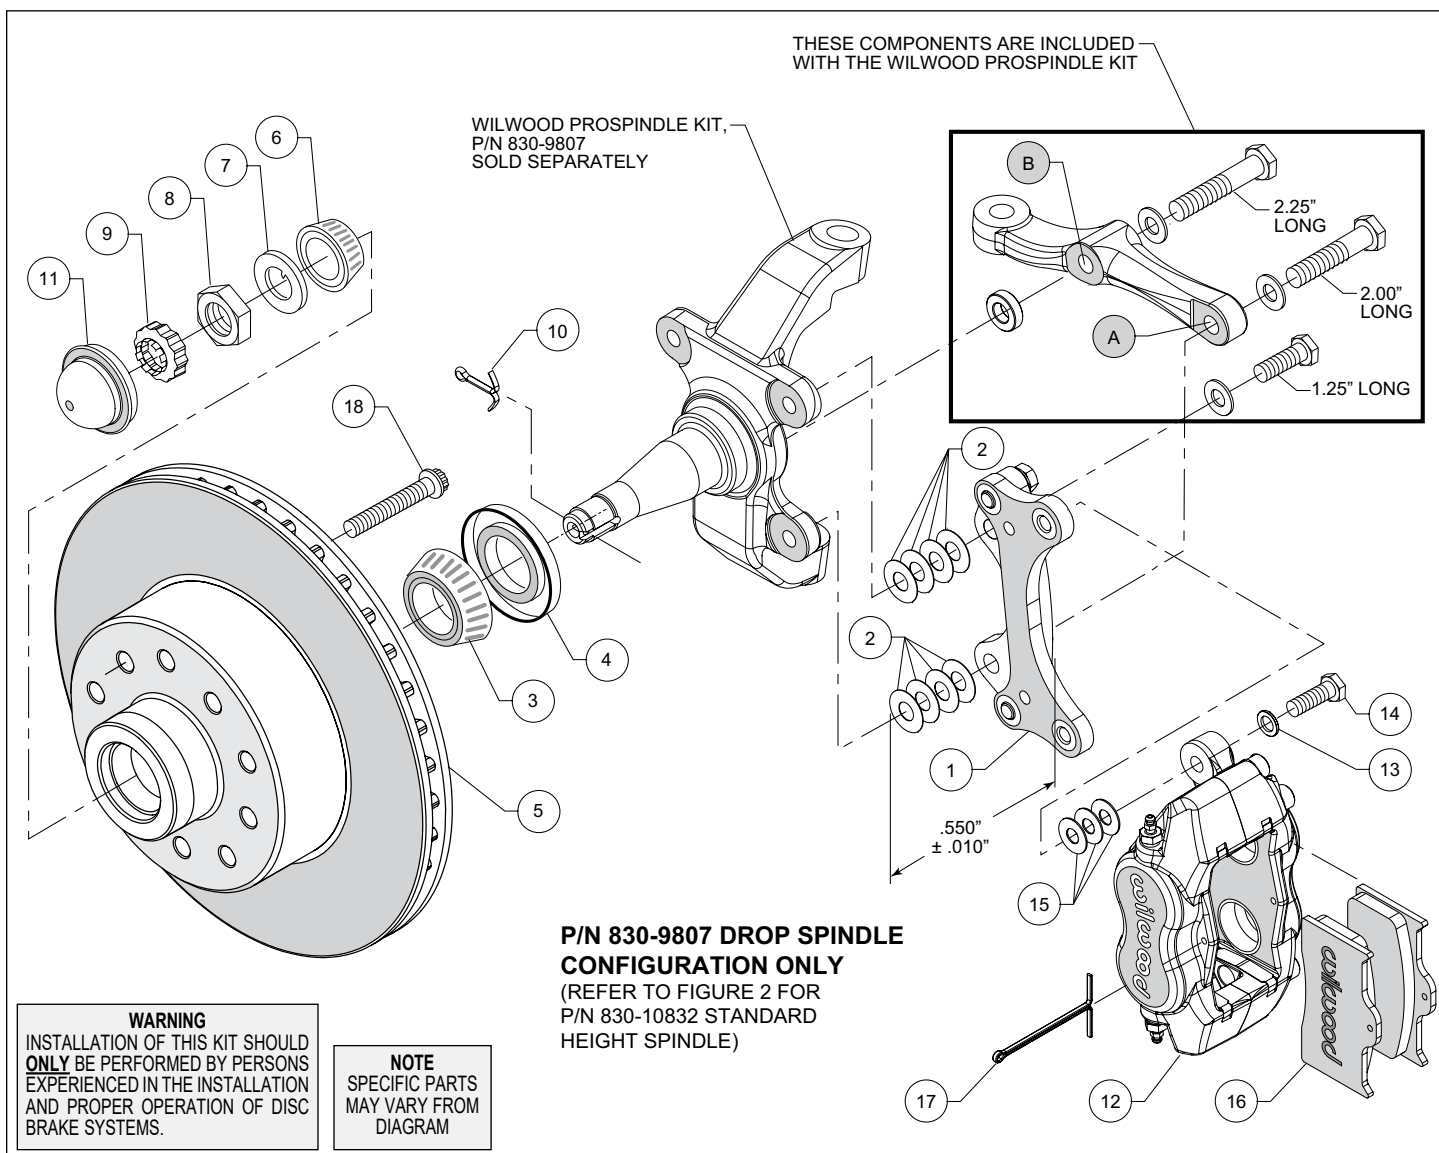
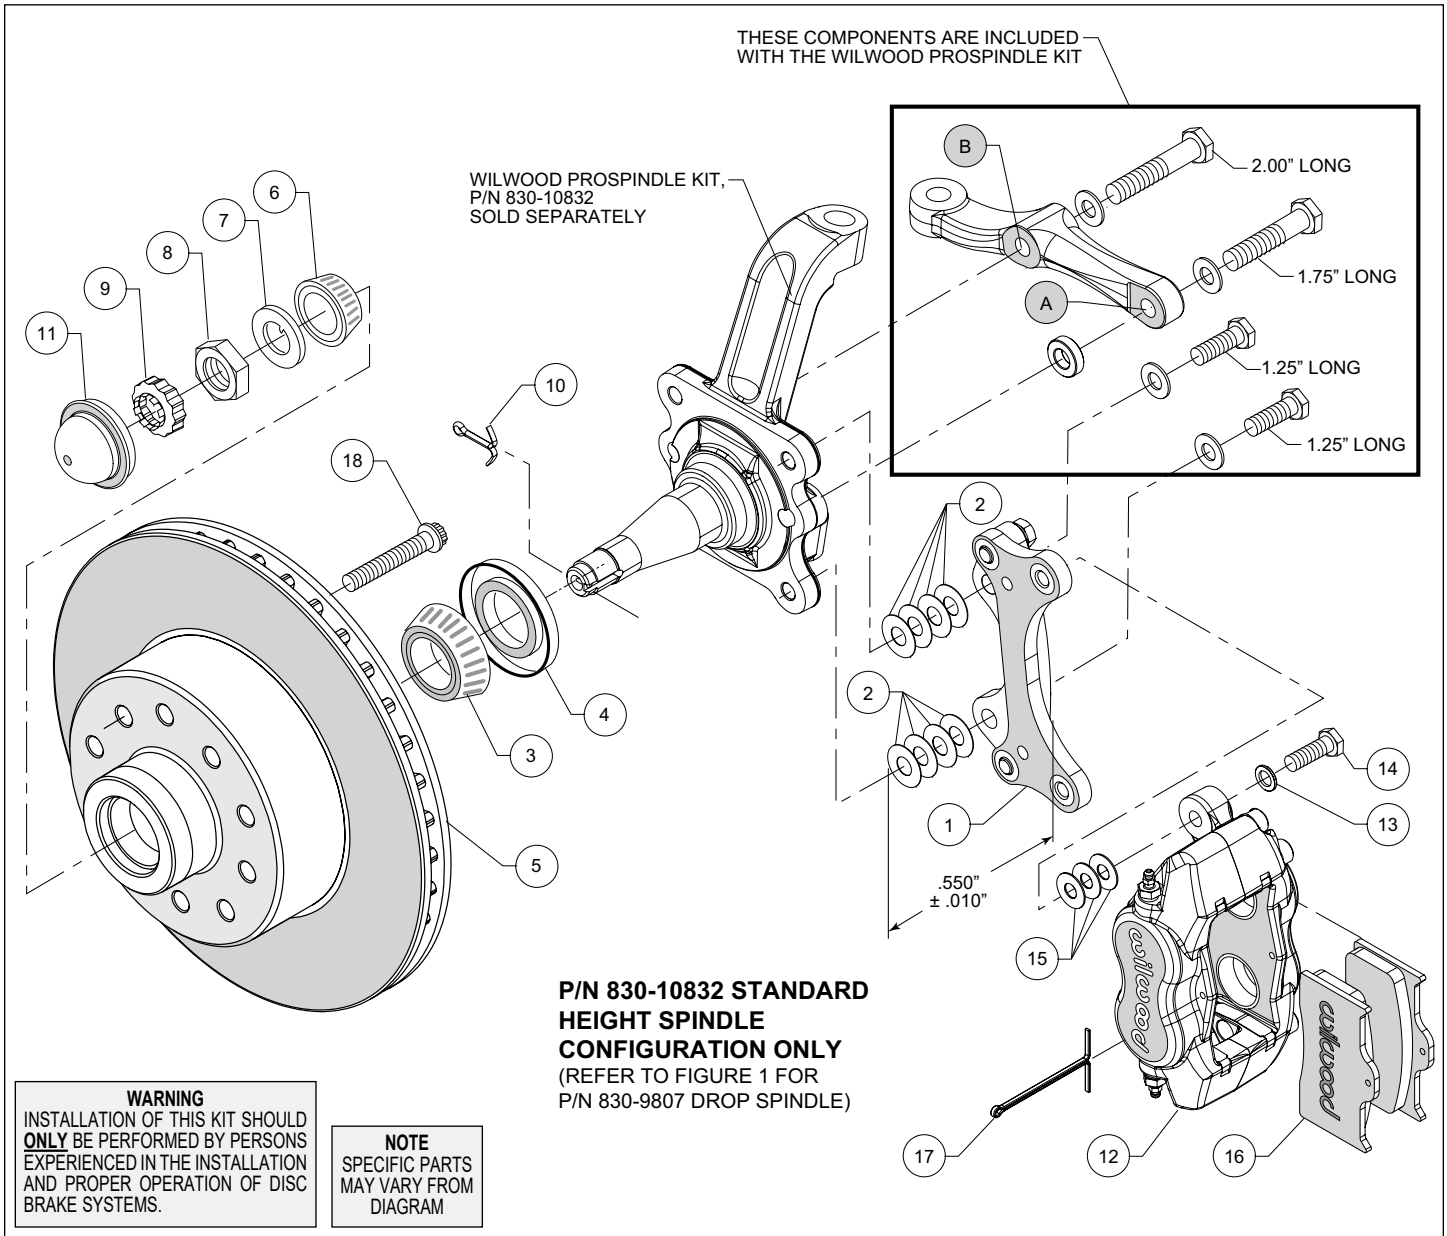
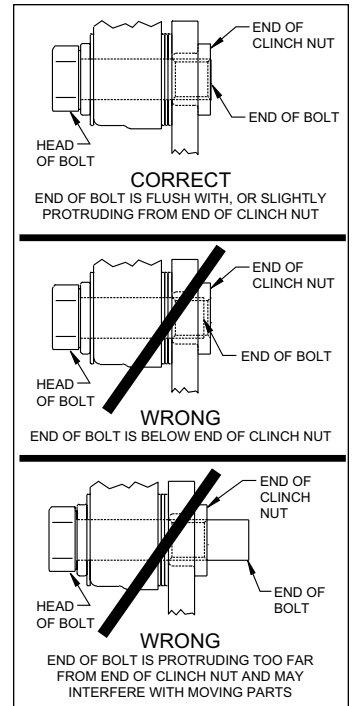

Figure 1. Installation Configuration For Drop Spindle, P/N 830-9807
Figure 2. Installation Configuration For Standard Height Spindle, P/N 830-10832
Figure 4. Clinch Nut Engagement Diagram
**NOTE:** Numbers in parenthesis refer to the parts list and Figures 1 or 2 on the preceding pages.
**CAUTION:** All mounting bolts must fully engage insert nuts. Be sure to check that all bolts are either flush or protruding through flanged side of insert nut after shimming, Figure 4.
•**NOTE:** Each Wilwood ProSpindle kit includes bolts, washers, and a spacer to mount the steering arm and caliper bracket. The various bolts are identified by length in the following instructions and in Figures 1 and 2.
**For 2" Drop ProSpindle (P/N 830-9807):** The caliper bracket assembly (1) should initially be installed with clean, dry threads on the mounting bolts.
- Orient the bracket as shown in Figure 1 and Photo 1. Install at top spindle hole using 1.25" long bolt and .06" thick washer (from ProSpindle kit), and four .016" thick shims (2) between the bracket and spindle, Figure 1.
- Orient the steering arm, and identify the hole marked 'A', as shown in Figure 1. Install at bottom spindle hole using 2.00" long bolt and .06" thick washer (from ProSpindle kit), and four .016" thick shims (2) between the bracket and spindle, Figure 1. The bracket is located between the steering arm and spindle. **NOTE:** The bracket and shim washers must add up to a total thickness of .550" ± .010", Figure 1.
- Finish attaching the steering arm through the hole marked 'B', as shown in Figure 1. Install using 2.25" long bolt, .06" thick washer, and .25" thick spacer (all from ProSpindle kit), Figure 1.
**For Standard Height ProSpindle (P/N 830-10832):** The caliper bracket assembly (1) should initially be installed with clean, dry threads on the mounting bolts.
- Orient the bracket as shown in Figure 2 and Photo 2. Install using 1.25" long bolts and .06" thick washers (from ProSpindle kit), and four .016" thick shims (2) on each bolt between the bracket and spindle, Figure 2. Temporarily tighten mounting bolts. **NOTE:** The bracket must fit squarely against the mounting points on the spindle. Inspect for interference from casting irregularities, machining ridges, burrs, etc. Remove the mounting bolts one at a time, apply red Loctite 271 to the threads, and torque to 55 ft-lb.
- Orient the steering arm, and identify the hole marked 'A', as shown in Figure 2. Install using 1.75" long bolt, .06" thick washer, and .30" thick spacer (all from ProSpindle kit), Figure 2.
- Finish attaching the steering arm through the hole marked 'B', as shown in Figure 2. Install using 2.00" long bolt and .06" thick washer (from ProSpindle kit), Figure 2.
- Install the grease seal (4) by pressing into the backside of the hub (5).
- Pack the small outer bearing cone (6) with high temperature disc brake bearing grease and install into the front side of the hub (5). Slide the hub/rotor onto the spindle. Secure using spindle washer (7), and adjusting nut (8). Bearing adjustment: Tighten the nut while turning the hub. When there is a slight bind on the bearings, they are seated correctly. Back the nut off about 1/6 to 1/4 of a turn, or sufficiently to allow .001" to .007" end play. **WARNING:** *Failure to back off adjusting nut could cause bearing to run hot and be damaged, which could cause the wheel to lock or come off.* Install spindle nut retainer (9) and new cotter pin (10), Photo 5.
- Press the dust cap (11) into hub (5), Photo 6. **NOTE:** *Do not hammer center of cap. Install using outer flange only.*
- NOTE:** *Please reference the caution statement at the beginning of the assembly instructions.* Mount the caliper (12) onto the caliper mounting bracket (1) using bolts (14) and washers (13), as shown in Figure 1 or 2. Initially place three .035" thick shims (15) on each bolt between the caliper and the bracket, Photo 7. Temporarily tighten the mounting bolts and view the rotor (5) through the top opening of the caliper. The rotor should be centered in the caliper, Photo 8. If not, adjust by adding or subtracting shims between the bracket and the caliper. Always use the same amount of shims on each of the two mounting bolts. **NOTE:** *The end of each bolt must be flush with or slightly protruding from the head of the clinch nut, as shown in Figure 4.* If necessary place spare shims between washer (13) and caliper mounting ear to achieve the proper clinch nut engagement. Once the caliper alignment and clinch nut engagement are correct, remove the bolts one at a time, apply red *Loctite*® 271 to bolt threads, and torque to 40 ft-lb.